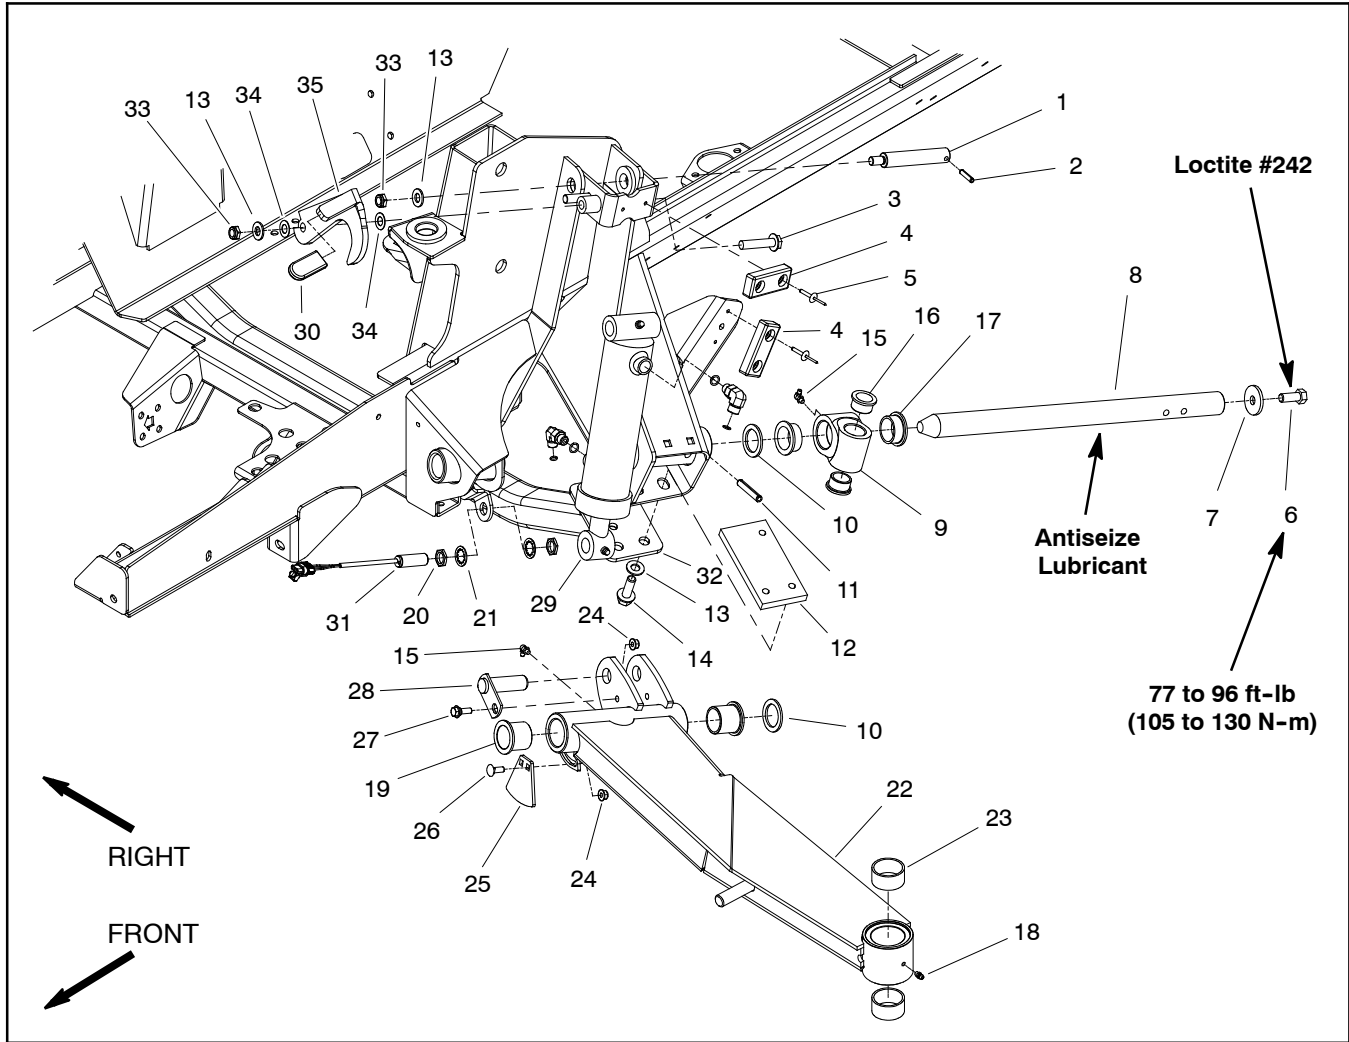

Figure 6
Removal (Fig. 6)
Installation (Fig. 6)
2. Position lift arm to frame with thrust washers properly placed (Fig. 6). Make sure that there is a thrust washer placed between the rear of the lift arm and frame. Additional thrust washers can be used to remove end play of lift arm.
4. Install new slotted roll pin (item 11) to secure lift arm pivot shaft.
5. If pivot hub (item 9) was removed from pivot shaft, slide pivot hub onto shaft. Apply Loctite #242 (or equivalent) to cap screw threads and secure pivot hub with washer and cap screw. Torque cap screw from **77 to 96 ft-lb (105 to 130 N-m)**.
6. Align lift cylinder with lift arm. Secure lift cylinder to lift arm with lift cylinder pin (item 28). After lift cylinder is secured, make sure that upper hydraulic fitting on lift cylinder does not contact frame.
8. If sensing plate (item 25) was removed from lift arm, secure plate so it is rotated as far as possible toward center of machine.